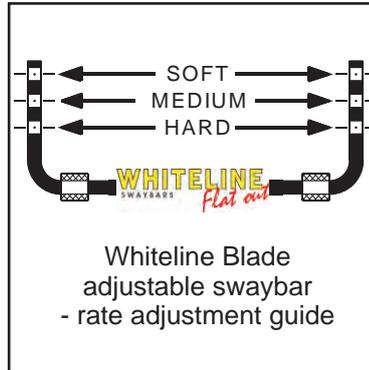

Figure 1. Rate adjustment guide.
10. Using remaining hardware and new links, connect the swaybar to the suspension bracket. For adjustable type swaybars, refer to figure 1 for rate adjustment guide.